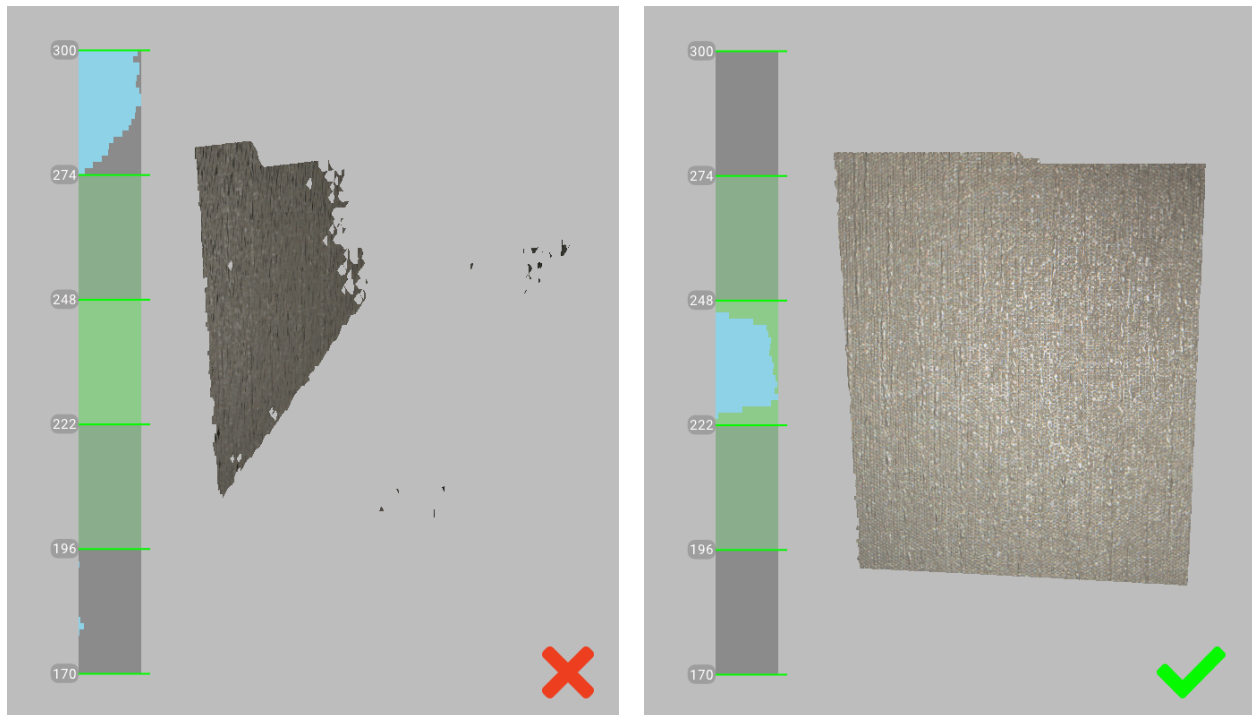

Figure 38: Scanner orientation and reconstructed surfaces.
- Maintain the scanner orientation in such a way that the field of view is sufficiently filled with surfaces (see Figure 38)